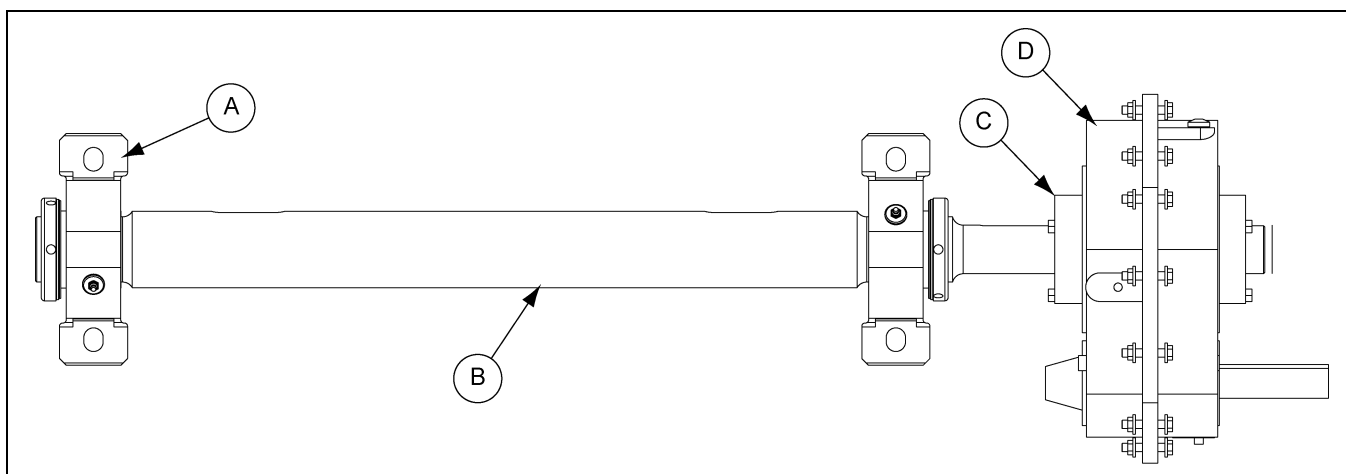

Figure 4K
1. To aid in the installation of the reducer onto the shaft, remove any protective coating film from the shaft. *(See Figure 4K.)*
3. Attach inside bushing (C) to the reducer drive (D).
5. Slide outside bushing (C) onto shaft and attach to reducer drive (D). Once reducer drive (D) is in place, fully tighten both bushings (C). *(See Figure 4K.)*